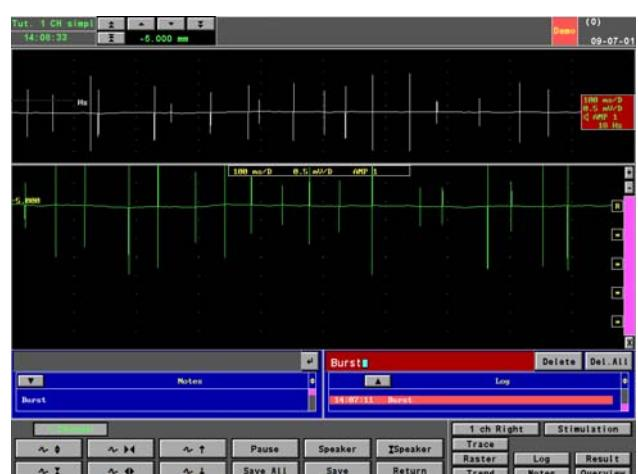

Figure 48 The Distance is displayed in the Small Toolbar and just above the trace in the Raster Window
- When you want to save the signal, save it by clicking after having clicked on the Information Box in the Trace Window. The trace will thus be transferred to the Raster Window, see Figure 48 below. For further information on The Raster Window, please see page 15.
The distance entered in the small toolbar will automatically be displayed just above the trace to the left in the Raster Window, see Figure 48 below.
- Then wait 10 seconds, before clicking to complete the data saving, see Figure 48 below: